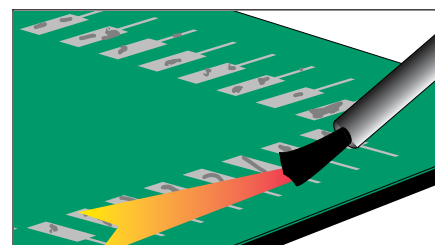

Figure 1 Flux Lands
4. Apply flux to all land areas. (See Figure 1.)